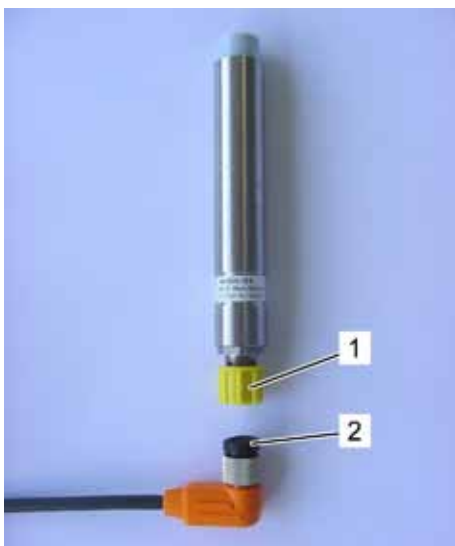

Fig. 90: Caps
3. Loosen the sensor cable from the sensor and place a cap on the sensor cable (Fig. 90/2) as well as another one on the sensor (Fig. 90/1) itself.